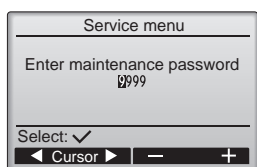

Fig. 7-2
- ① Select "Service" from the Main menu, and press the button.
- ② When the Service menu is selected, a window will appear asking for the password. (Fig. 7-2)